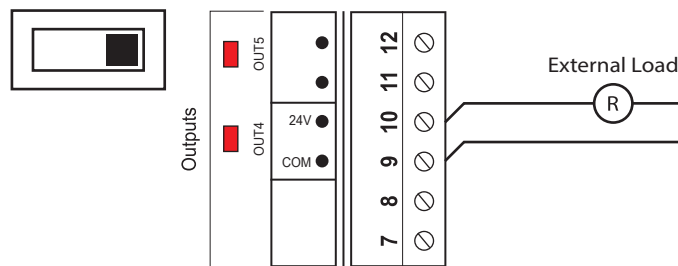

Figure 10 - Connection of Active Outputs 3 and 4
| Figure 10 - Connection of Active Outputs 3 and 4.....               | 10 |
1) Active output (SOURCE). The C1000 is actively powering the load (see Figure 10).